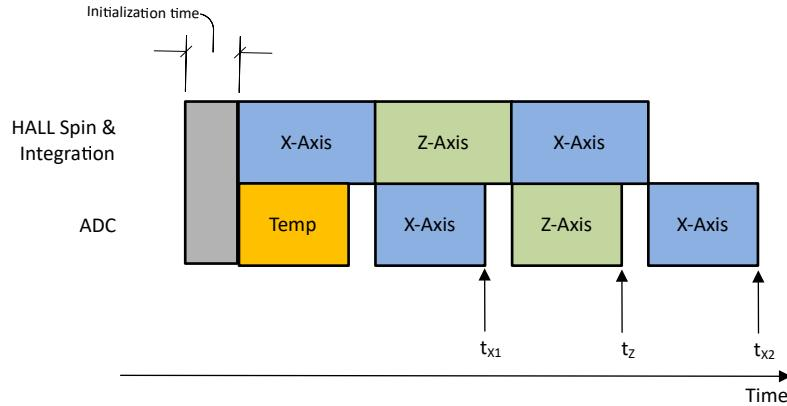

Figure 7-3. XZX Magnetic Field Conversion
In absolute angle measurement, application sensor data from multiple axes are required to calculate an accurate angle. The magnetic field data collected at different times through the same signal chain introduces error in angle calculation. The TMAG5170D-Q1 offers pseudo-simultaneous sampling data collection modes to eliminate this error. Figure 7-3 shows an example where MAG_CH_EN is set at 1101b to collect XZX data. Equation 7 shows that the time stamps for the X and Z sensor data are the same.
- t_{X1} , t_Z , t_{X2} are time stamps for X, Z, X sensor data completion as defined in Figure 7-3.